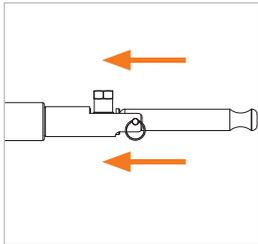

Figure 8
- ▶ Move the connector slightly in the direction of the test piece (Figure 8). The clamping jaws open. The connection to the test piece is released and the connector can be removed by pulling it straight back.